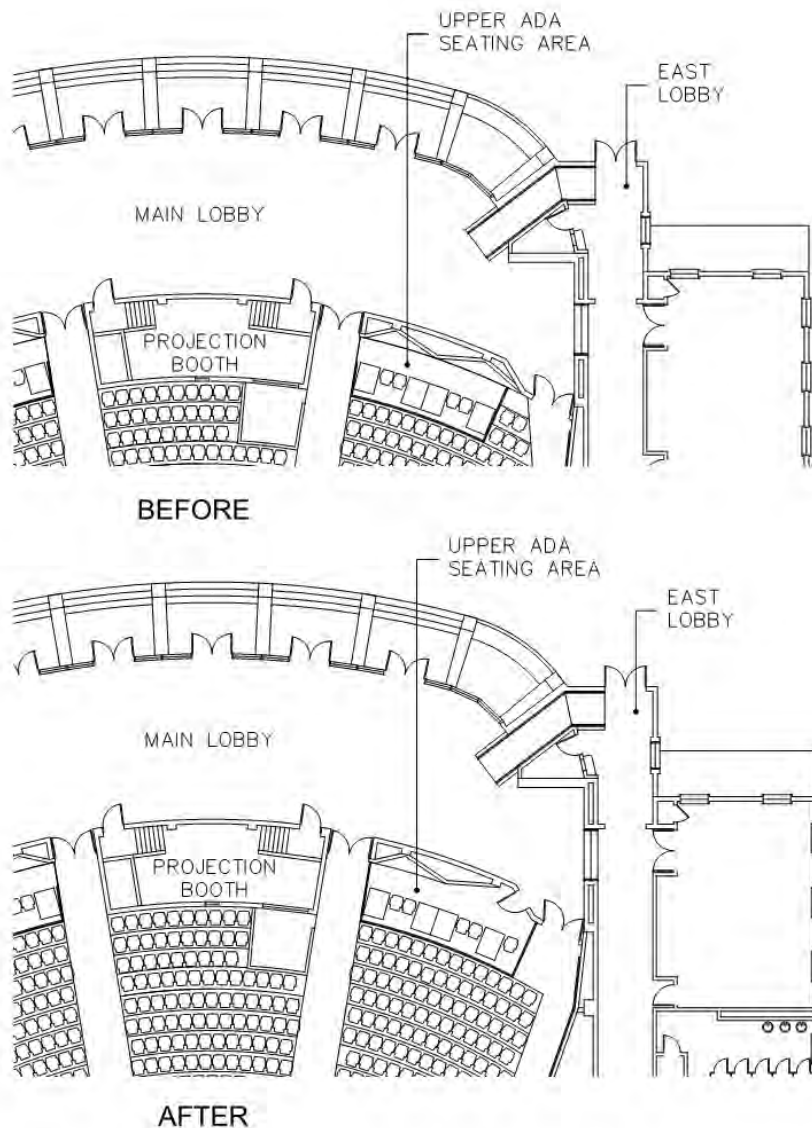

Figure 4 Upper ADA seating area
- Demolition and new structural steel frame as required to cut in a new in-swinging door to access the platform from the main lobby as shown in Figure 4 below